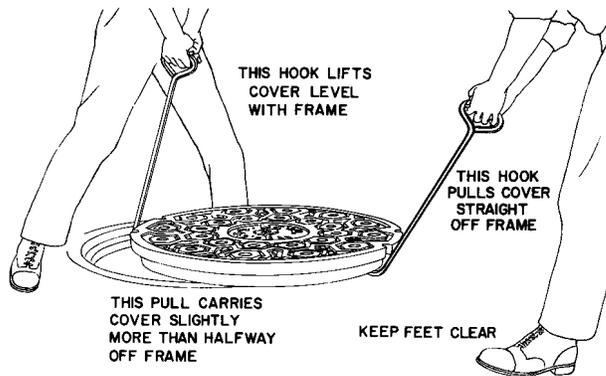

Fig. 15—Sliding Cover Partially Clear of Frame—Two-Man Method
- (5) The man in the original position now pulls while the other lifts his side of the cover level with the rim of the frame and also assists in pulling to the extent permitted by his position. See Fig. 15. The pull should be directly off the frame. Any attempt to swing the cover by other than a direct pull may cause the manhole hooks to slip. It is not necessary that this pull carry the cover completely clear of the frame, only that less than half its weight be left overhanging the opening at the completion of the pull.